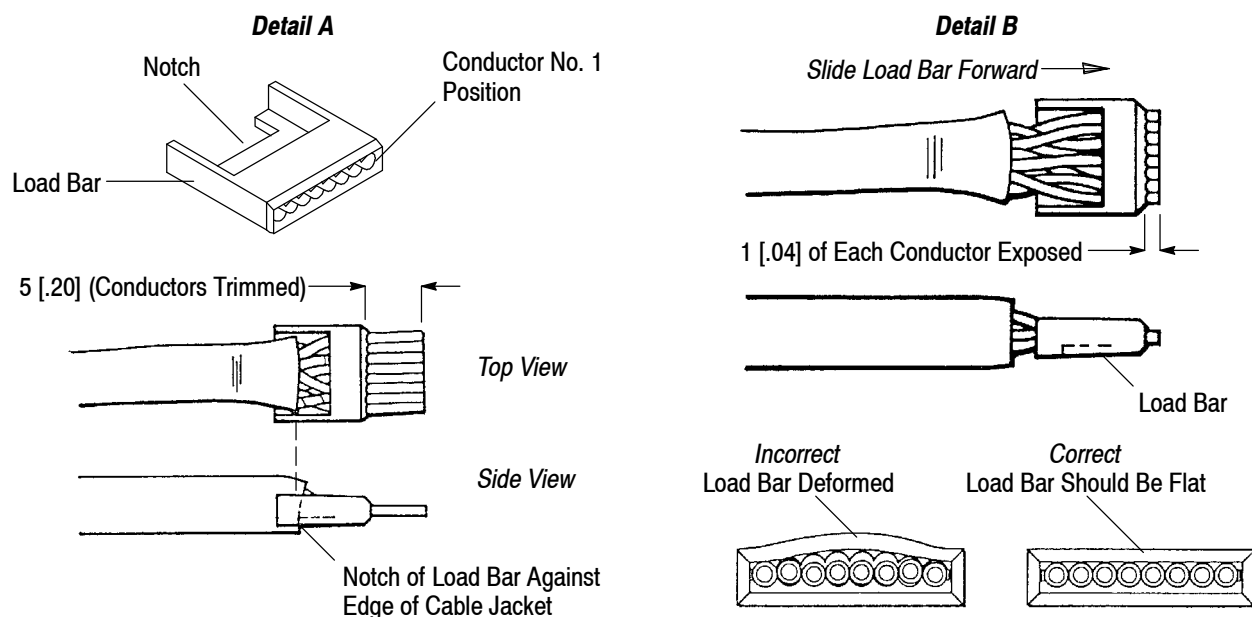

Figure 4
1. The conductors must be fully inserted into the load bar in the proper orientation. The floor of the load bar between the cable notch and conductor constraining area may be used to bring the 8-conductor tips into the same plane (this can be an aid for inserting the conductors into the load bar). The edge of the cable jacket should rest against the notch of the load bar. The conductors must be trimmed evenly and square to the front edge of the load bar so that approximately 5 [.20] of each conductor protrudes from the front of the load bar. Refer to Figure 4, Detail A.
2. The load bar must be slid toward the tips of the conductors so that approximately 1 [.04] of each conductor is exposed. The conductors must not extend too far into the load bar; otherwise, the load bar will twist and become deformed. Refer to Figure 4, Detail B.